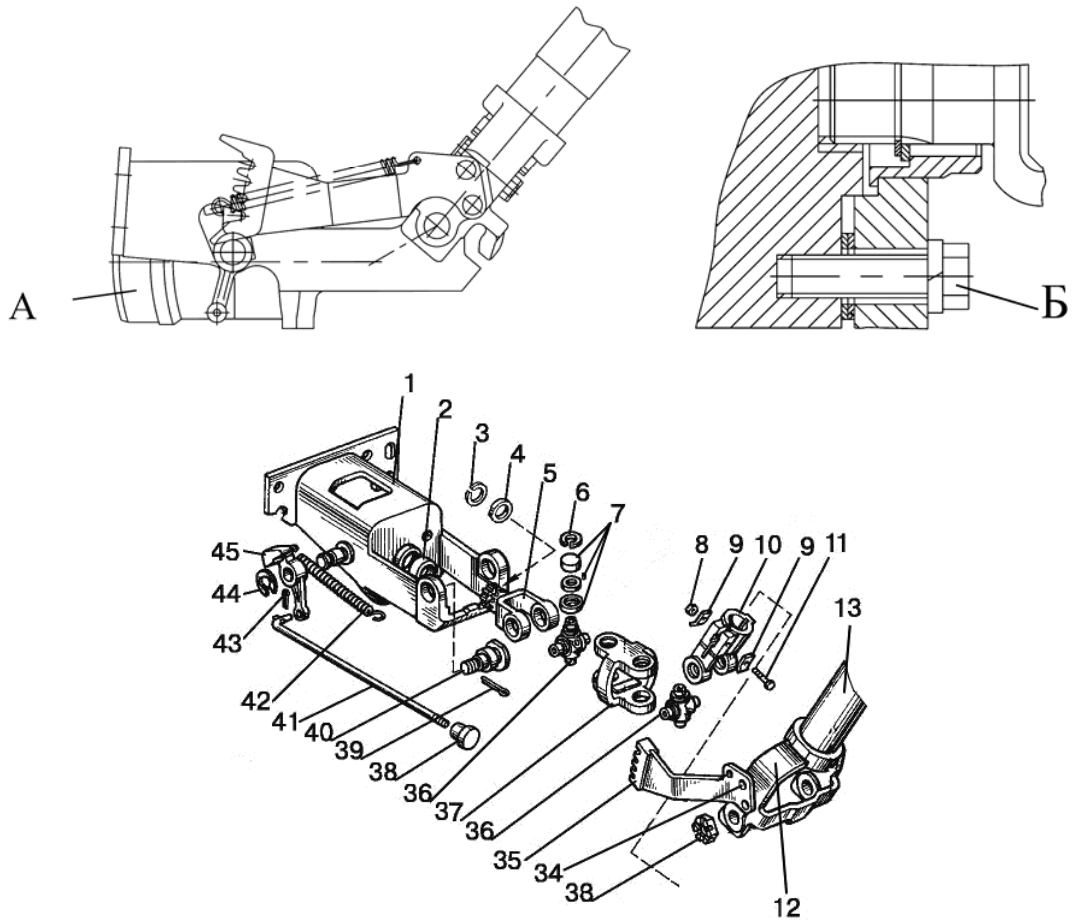

Figure 7.11
- a) unscrew screws for fastening sheath (29) to dashboard;
- b) remove cover (22), unscrew clamp (23) and pull out steering wheel (26) together with spring (30), shaft (31), sheath (29) and μ bushings (27) and (28);
- c) insert metal rod between eyelets of yoke (10), (figure 7.11), of cardan shaft and unscrew check nut (21) by 1-2 turns using wrench $S=36$ mm;
- d) unbend retaining washer (9) on the side of nut (8), unscrew it and pull out bolt (11) with the second washer (9);
- e) pull baffle (46) and extract shaft (15) together with shank (16) and pin (17) from yoke (10) and pipe (13);
- g) unscrew nut (20) with check nut (21) and remove baffle (46) from pipe (13) (46);
- h) pull out of pipe (13) bushing (19) with shock absorber (18) and disconnect them;
- i) deflect yoke (10), remove washer (32) and pull out the second bushing (19) with shock absorber (18).
- k) unscrew bolts "B", (figure 7.11), and dismount metering pump "A";
- l) remove retaining ring (3) and washer (4);
- m) pull out cardan connection (5), (7), (10), (36), (37) and bushing (2);
- n) remove spring (42).